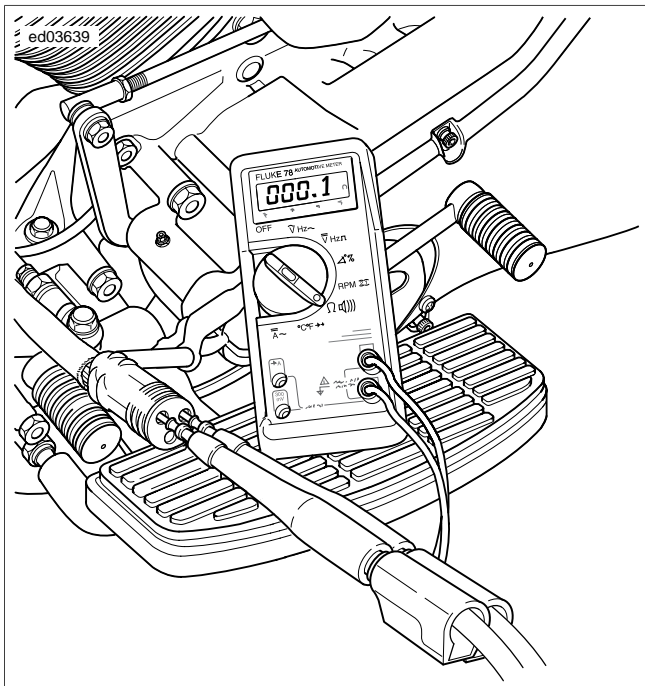

Figure 3-18. Check for Stator Resistance (Typical)
4. See Figure 3-18. Remove ground lead. Measure resistance across stator [47B] terminals 1-2, 2-3 and 3-1.